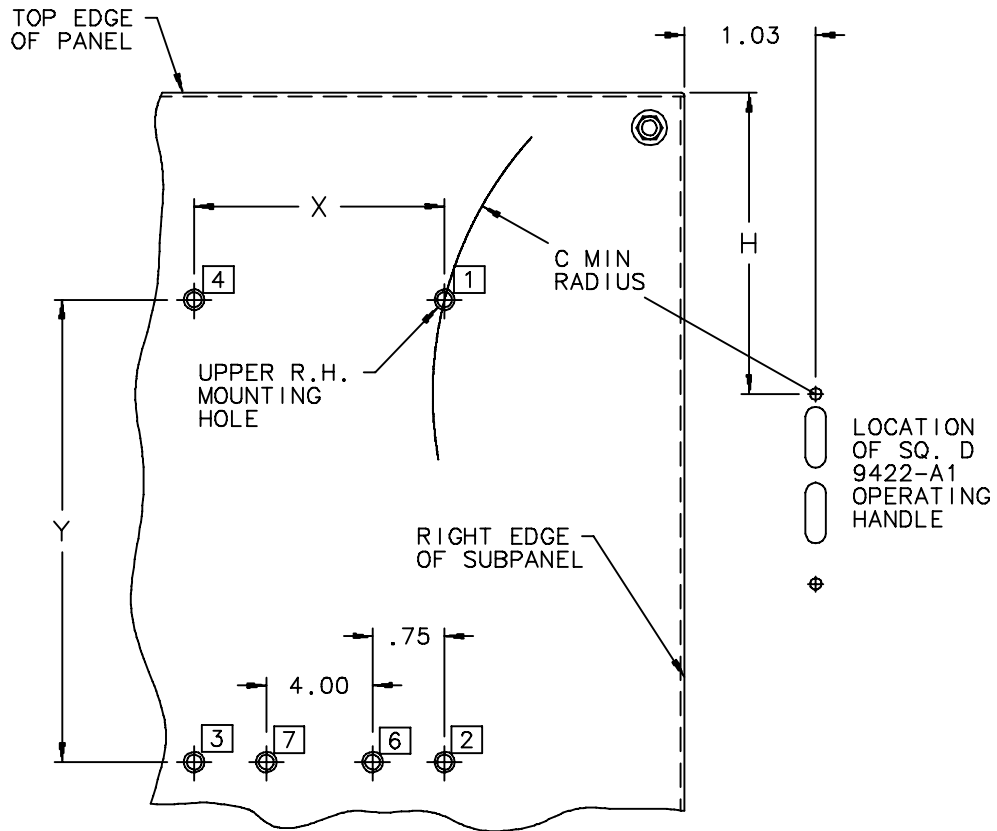

Figure 3 SQ D
Step1 – Determine disconnect hole pattern from Figure 3 I-T-E and the above tables. See disconnect manufacturers instructions for range of disconnect location based on cable length being used and depth of enclosure.